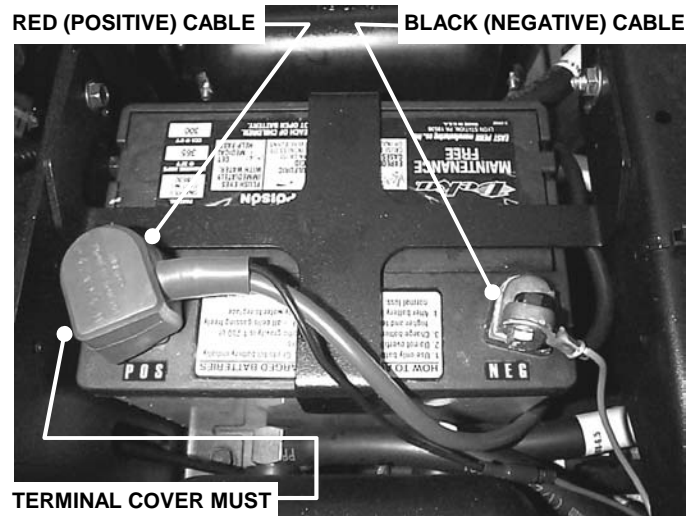

FIGURE 1
STEP 10: Both bolts are already installed on both terminals. Connect positive (+) cable (red) first, from wiring harness to the positive terminal (+) on battery and secure with nut provided in hardware bag. Connect negative (-) cable (black) last, to negative terminal (-) on battery and secure with nut also provided. Apply a small amount of grease over terminals to prevent corrosion. See Figure 1.